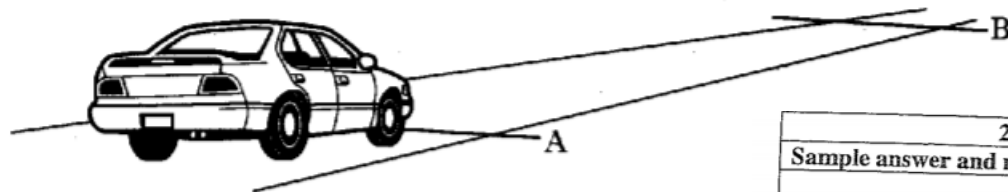

Figure 1
1. A car accelerates uniformly from rest from a point A and is timed over the distance AB as shown in Figure 1.